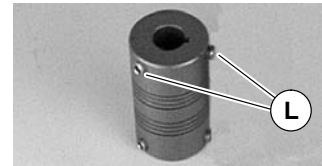

Figure 9
NOTE: Coupling has two (2) set screws (L of Figure 9).